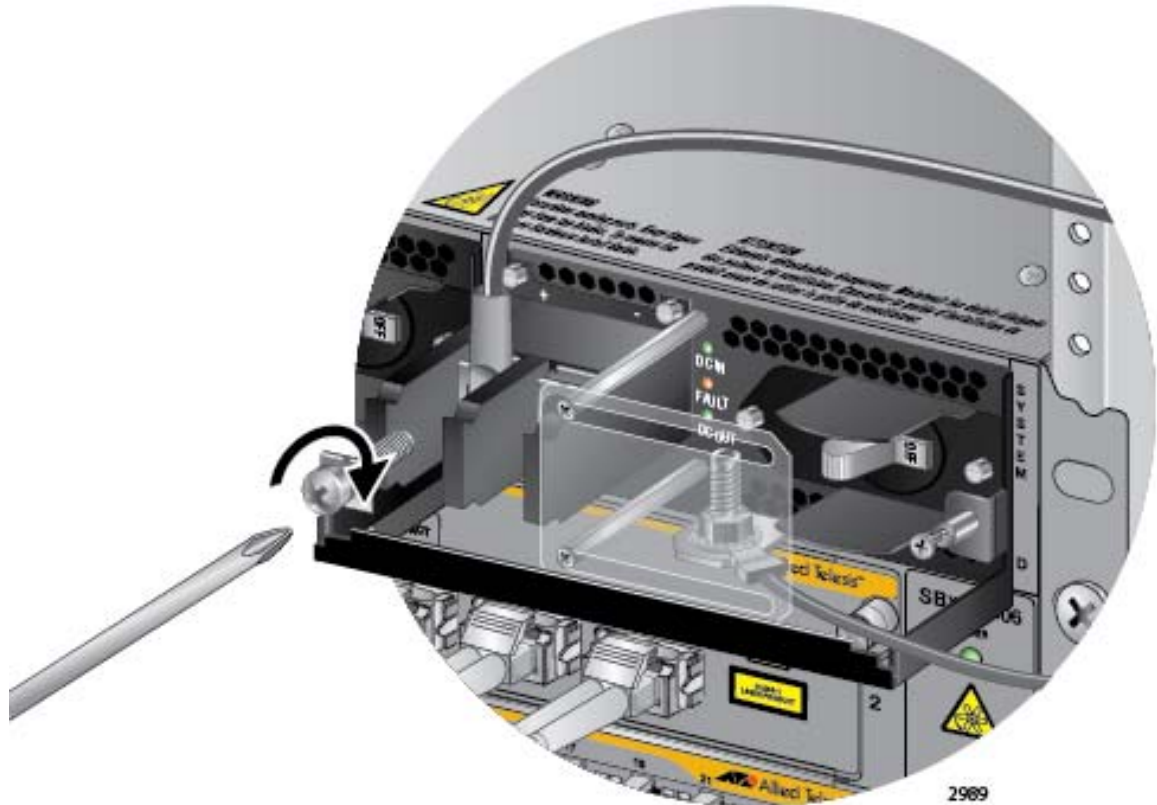

Figure 137. Connecting the Positive (+) Power Wire with a Straight Terminal
6. With a #3 Phillips-head screwdriver, connect the positive (+) power lead wire to the positive terminal on the power supply, with one of the terminal screws removed in the previous step. The positive terminal is on the left. You may attach the terminals with the wires either above or below the terminal block. Figure 137 on page 213 shows the positive wire above the terminal block.